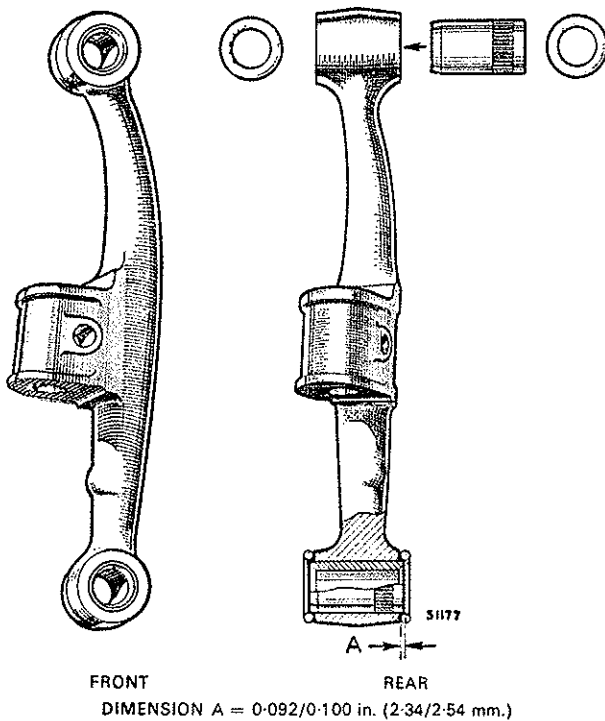

Fig. F.12. Fitting of threaded bushes to the stub axle carrier. The new bush is pressed in from the rear
**Note:** The bushes must only be pressed out forwards (i.e., pressing from the rear face of the carrier eyes). Replacements must always be pressed in from the rear (knurled end last) to enable the knurling to engage a plain portion of the boss until they project 0.100/0.092 in. (2.54/2.34 mm.) from the rear face of the carrier boss (see Fig. F.12).